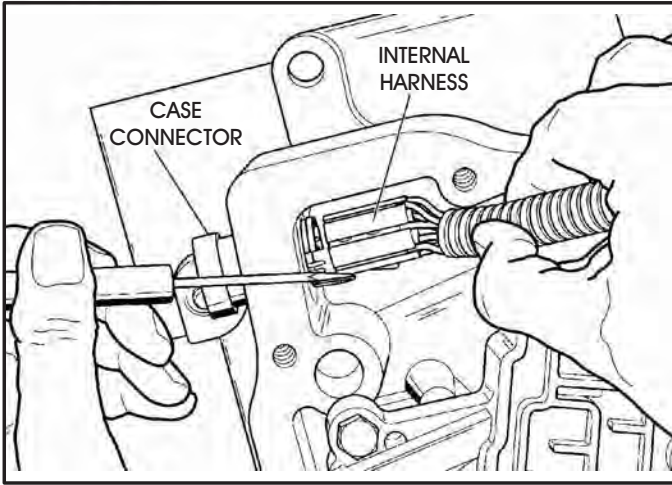

Figure 64
42. If it has not already been done, remove internal wire harness from case connector at this time, as shown in Figure 64.